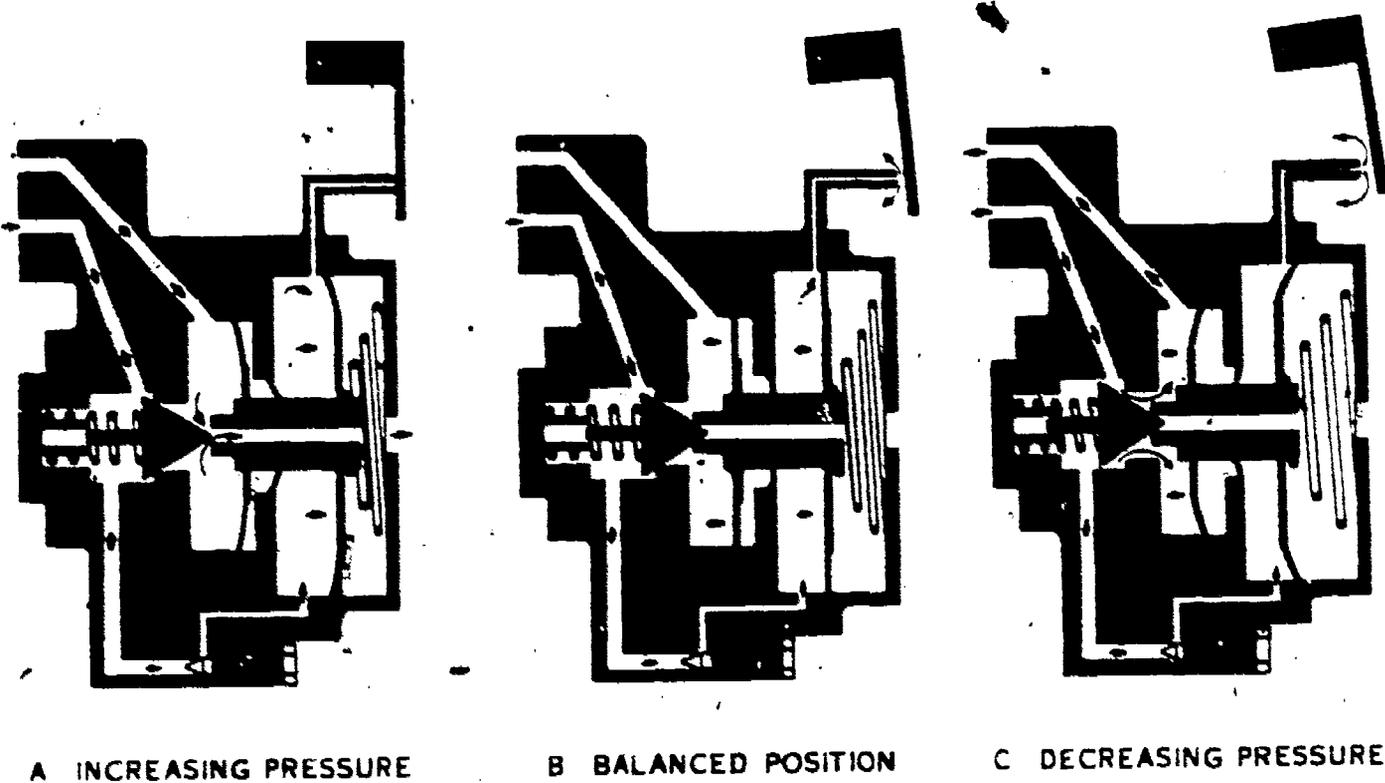

Figure 9 Reverse Acting Proportional Relays
**REVERSE ACTING.** A relay that decreases output pressure when pilot air increases, figure 9.
The reverse-acting relay is similar to the direct-acting relay except that the pilot pressure is applied to the opposite side of the pilot diaphragm and its direction of operation is opposite. A third diaphragm is added between the pilot and control diaphragms to act as a seal to maintain atmospheric pressure in the center chamber. See figure 9.
**INCREASING PILOT PRESSURE.** On an increasing pilot pressure, figure 9A, the pilot diaphragm overcomes the spring force to move the internal mechanism toward the spiral spring. This action allows the main valve spring to close the main valve. As this movement continues, the exhaust valve passage opening moves away from the main valve cone allowing the control air to escape through the passage to atmosphere. This reduces the pressure in the control chamber until the control air is completely exhausted or a balanced condition is reached as shown in figure 9.